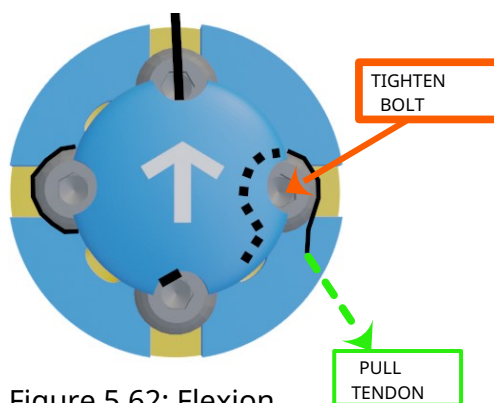

Figure 5.62: Flexion end: pulling and fastening
2. While holding the tendon pulled with manual assembly pliers, tighten the bolt well to lock the tendon (figure 5.62).